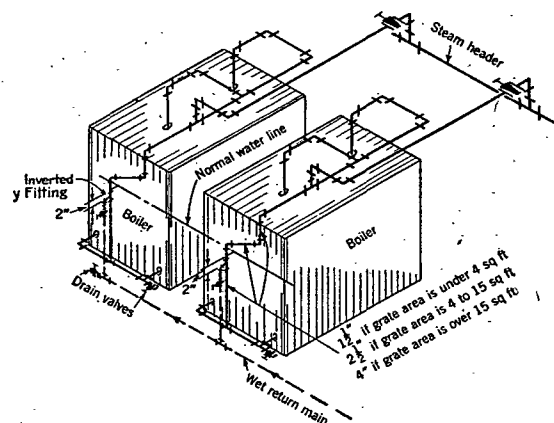

FIG. 16. THE HARTFORD RETURN CONNECTION
In order to prevent the boiler from losing its water under any circumstances, the use of the Hartford return connection is recommended. This connection for a one- or two-boiler installation is shown in Fig. 16. The essential features of construction of a Hartford return connection are: (1) a direct connection (made without valves) between the steam side of the boiler and the return side of the boiler, and (2) a close nipple, or preferably an inverted Y-fitting connection about 2 in. below the normal boiler water line from the return main to the boiler steam and return pressure balance connection. Equalizing pipe connections between the
steam and return are given in Fig. 16, based on grate areas, but in no case shall this pipe size be less than the main return piping from the system.